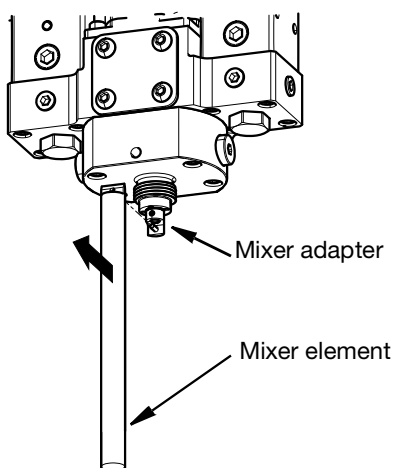

FIG. 33
- Remove the mixer element from the mixer adapter. See FIG. 33.